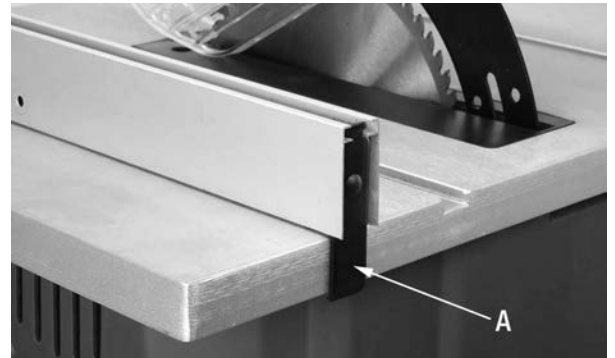
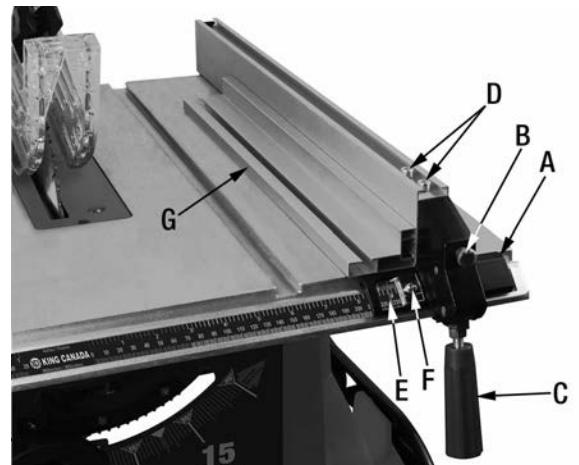

FIGURE 11
FIGURE 12
Position the rip fence from the outside on the table saw table so that the rear clip (A) Fig.11 engages under the table and the clamping body (A) Fig.12 engages the front groove of the table saw as shown. If you are unable to do this, loosen front adjust screw (B) Fig.12 2-3 turns counterclockwise to widen the space between the clip and the clamping body and try again.
To reduce the risks of kickback, the rip fence must be perfectly parallel to the blade. Unlock rip fence by raising lock handle (C) Fig.12. Loosen both cap screws (D) on top of the rip fence. Align the rip fence with the blade and retighten both cap screws (D).
If needed, adjust the rip fence pointer (E) Fig.12 to the same marking by loosening pointer screw (F) and repositioning pointer.
An aluminum guide (G) Fig.12 can be installed to either side of the rip fence body in the horizontal position as shown. This aluminum guide is mainly used to safely rip thin and narrow stock. Slide two long hex. bolts into the aluminum guide slot, insert hex. bolts into the two holes in the rip fence body. Secure the aluminum guide using washers and plastic wing nuts (A) Fig.13 to the rip fence body (B) Fig.13.